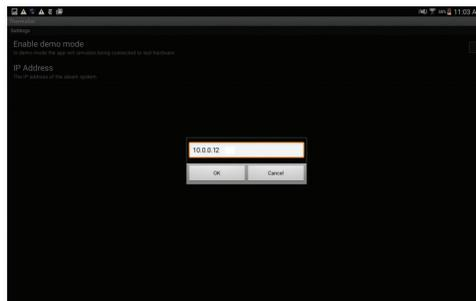

Figure 26: ThermaSol App IP address setting
3. Enter the IP address that was captured above in step 9 of “CONFIGURE THE NETWORK” section into the ThermaSol App IP address field as shown below in Figure 26